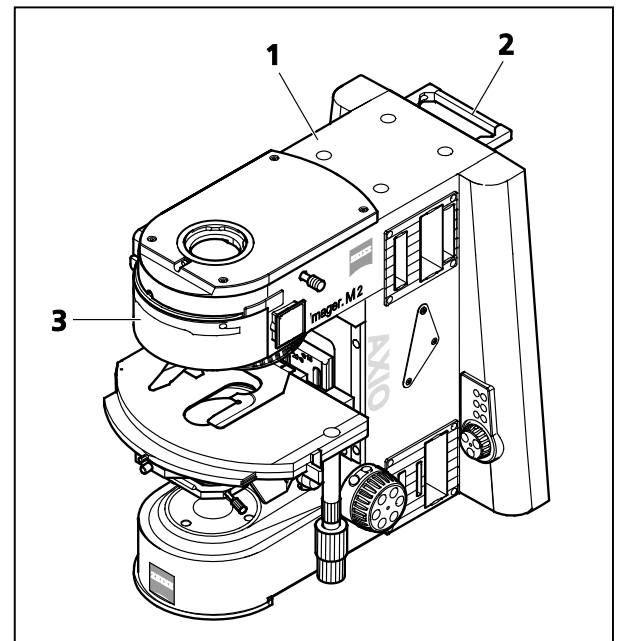

Fig.9 Setting up the microscope
The stand can be carried using the handle (Fig.9/2) at the rear of the stand. The second holding point must never be on the microscope stage itself, as this could damage the guide. The grip recess on the cover part Fig.9/3) constitutes a safe second holding point.
- Place the instrument (Fig.9/1) onto a vibration-free, flat worktable.